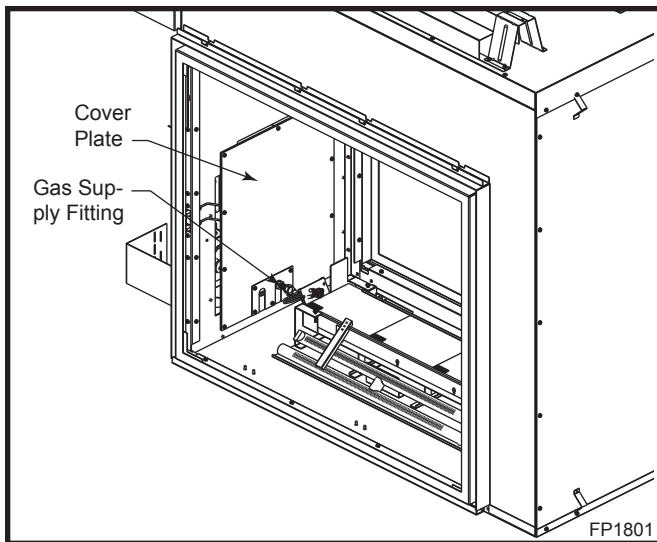

Fig. 7 Disconnect gas supply fitting and remove 13 screws securing the cover plate.
5. Using a back-up wrench, disconnect the gas supply fitting near the right rear corner of the firebox. (Fig. 7)